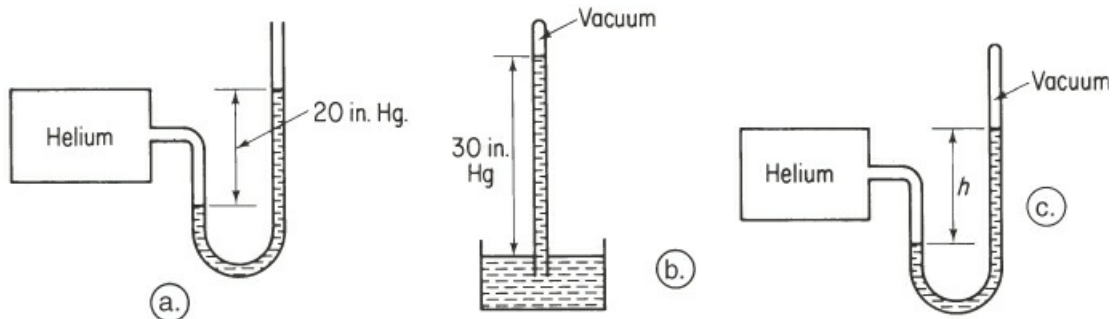

Figure SAT2.7.2 P2
- a. What kind of pressure is measured in Figure SAT2.7.2 P2 a?
- b. In Figure SAT2.7.2P2 b?